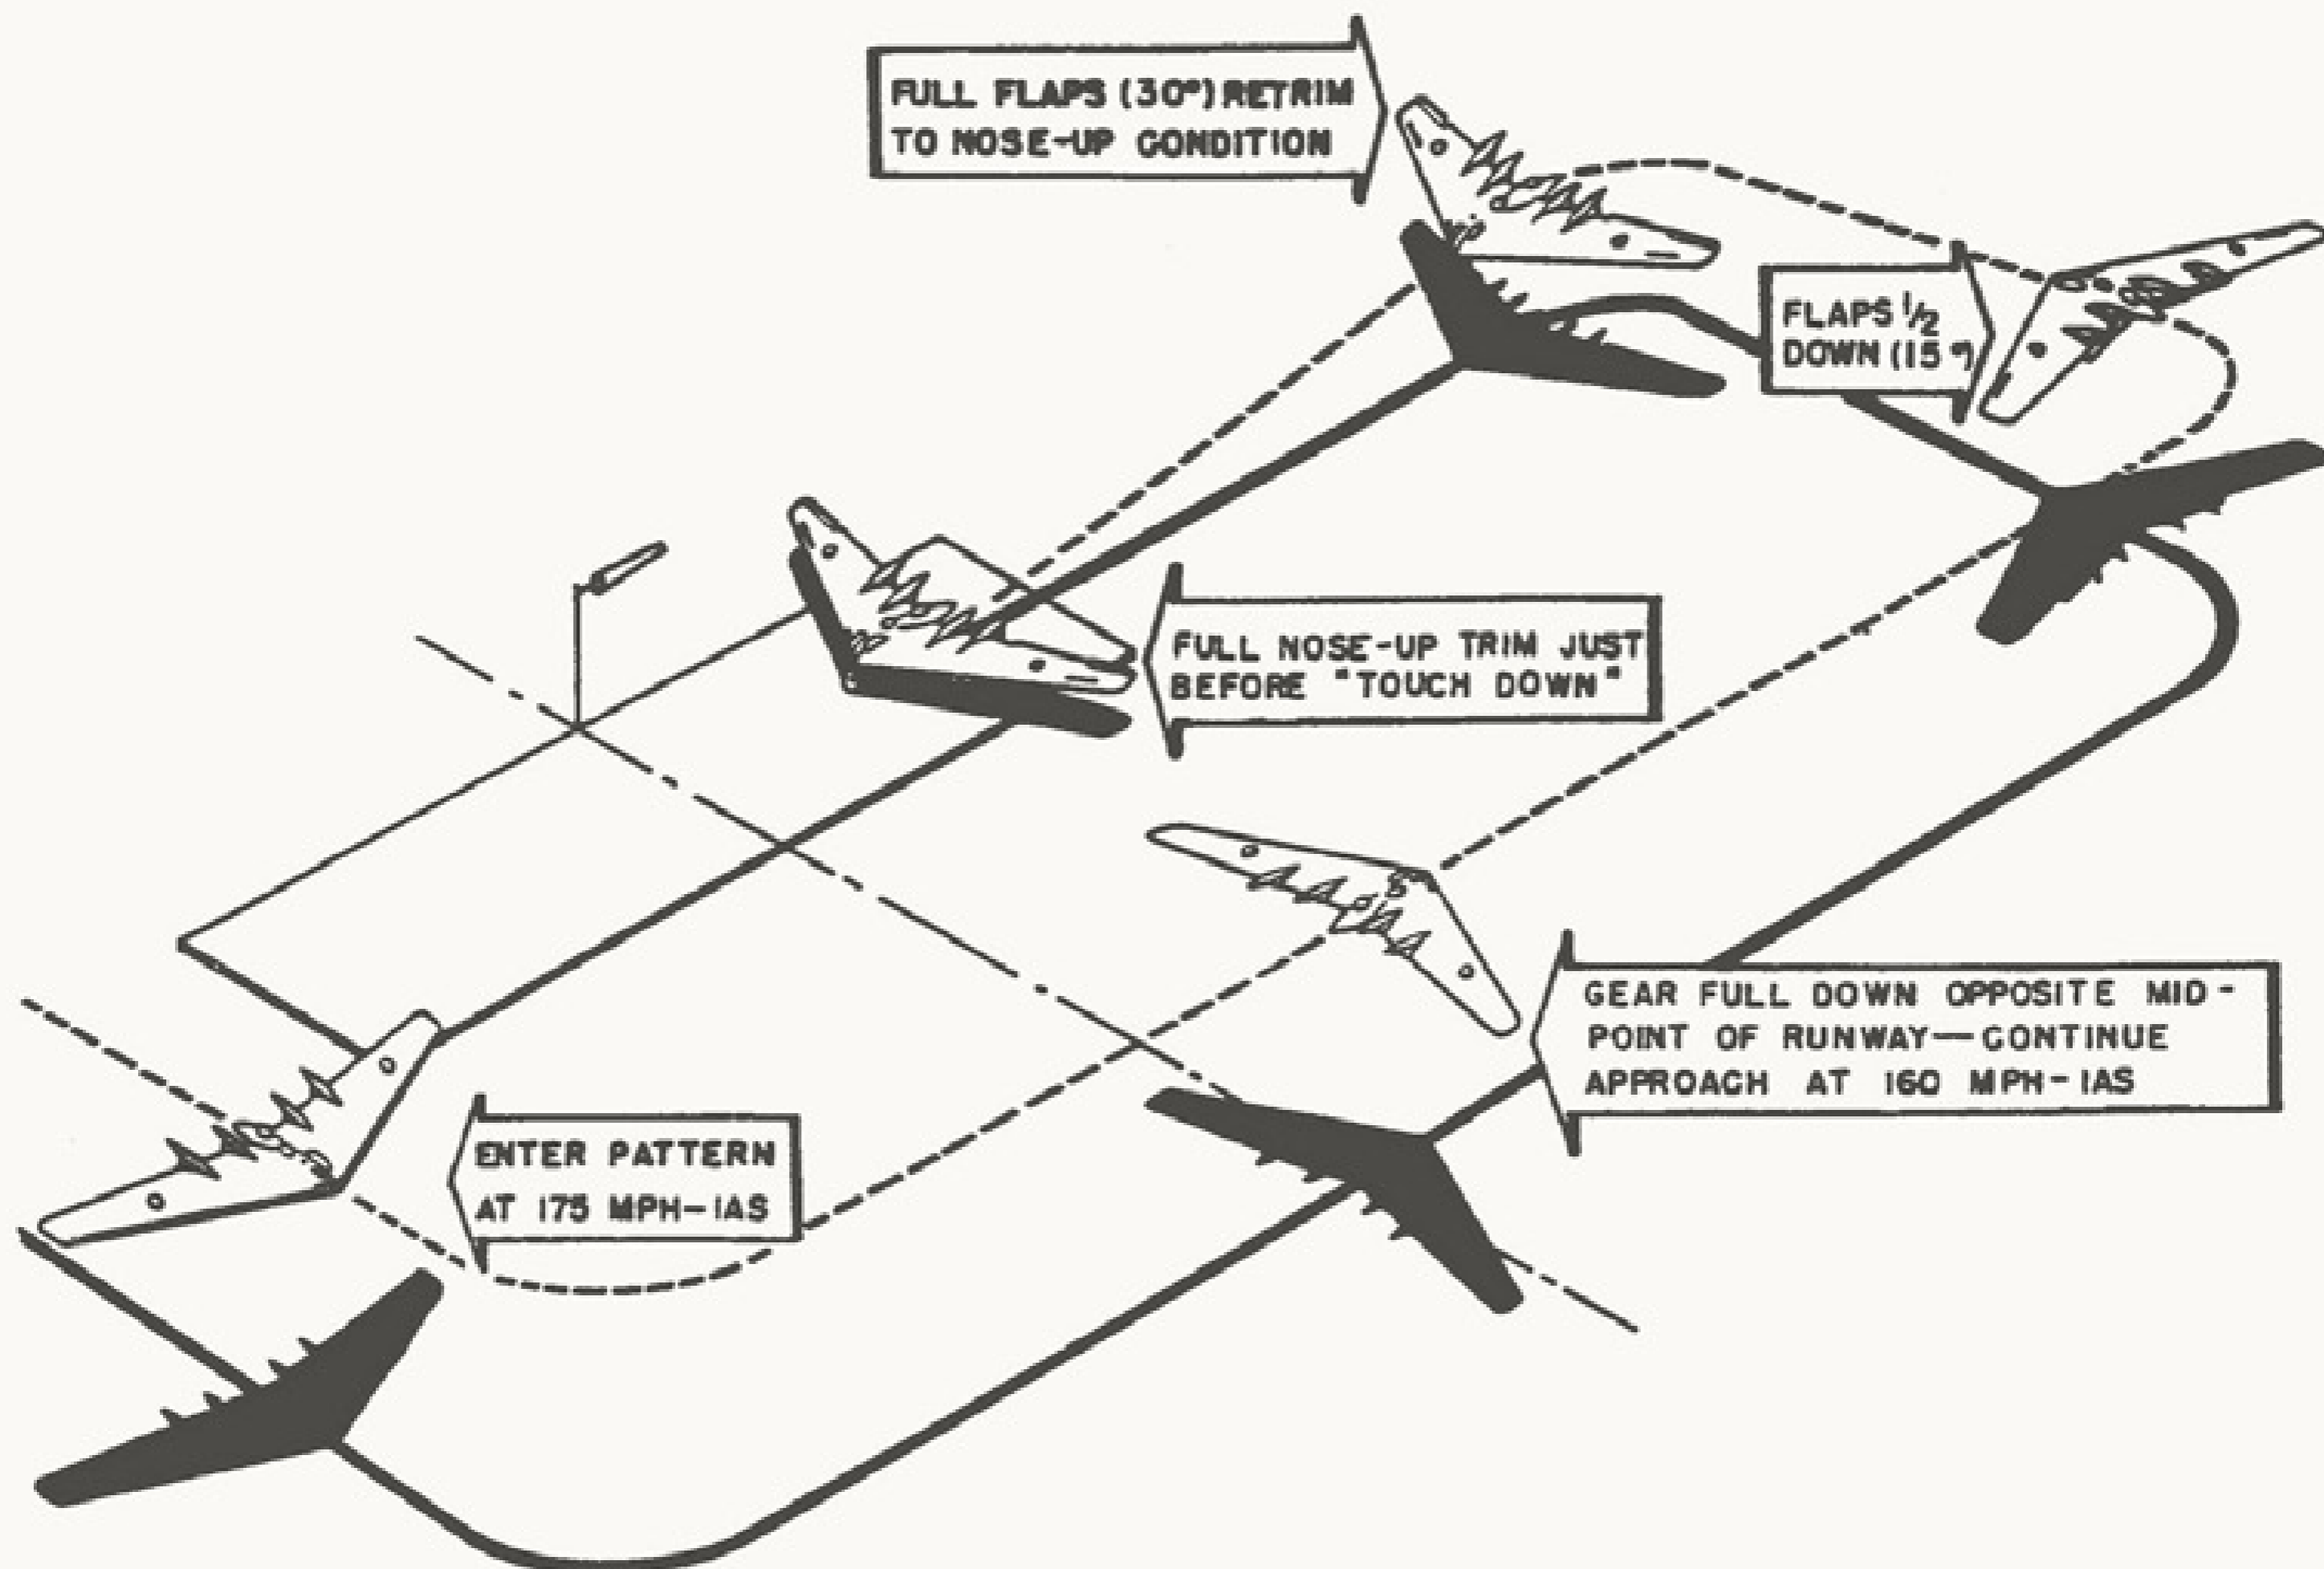

Figure 6. Traffic Pattern
20. LANDING APPROACH. (See figure 6.)